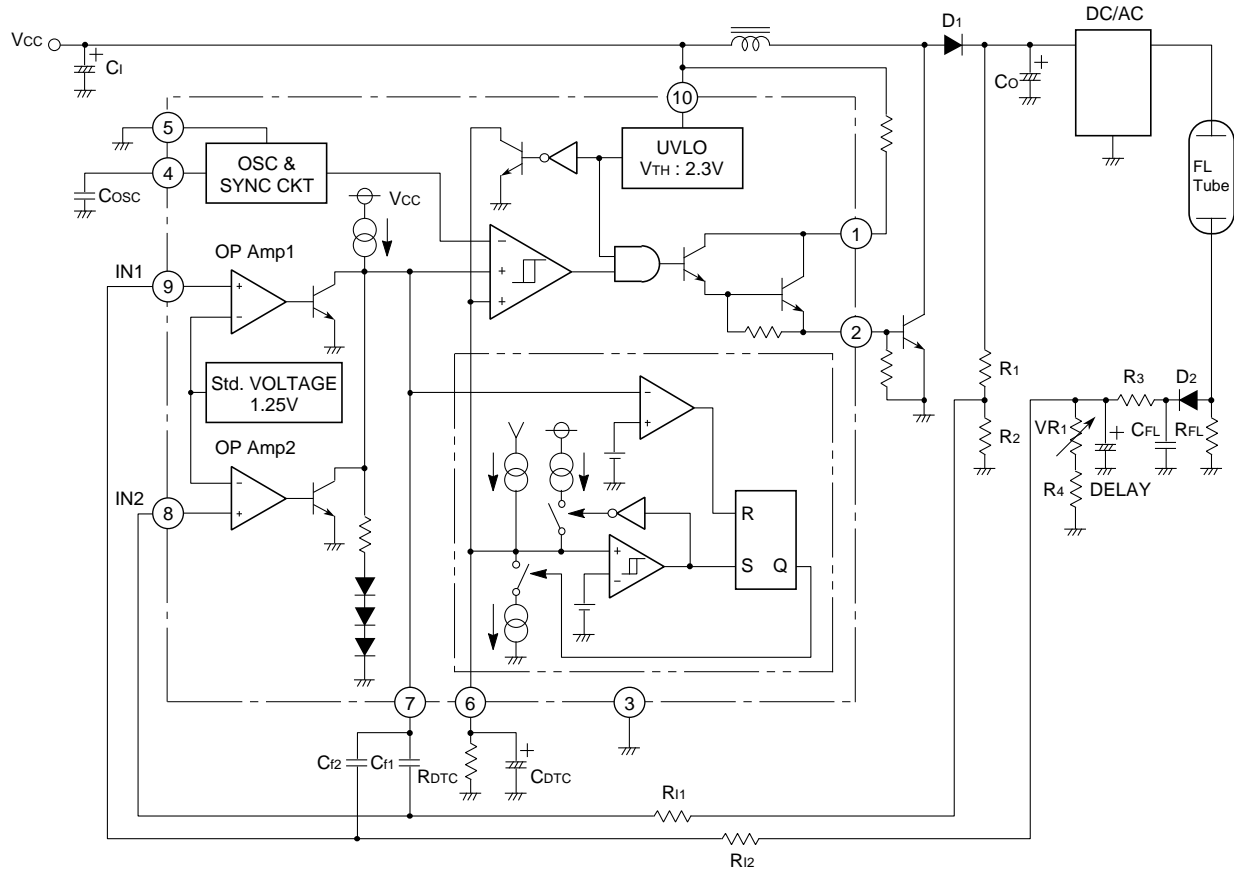

Fig.1 An application of the back light control circuit
1) Soft Start (The peripheral circuit is shown in Fig.1)